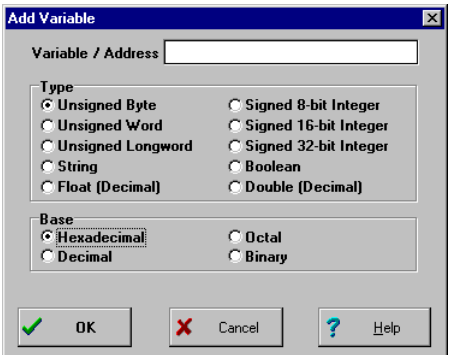

Figure 6-7. Add Variable Dialog
- **Add Variable:** Choose this option to open the *Add Variable* dialog (Figure 6-7) to add a variable or address to the current variable list. Select the variable type (size) and base.
You may enter values for commands in the simulator as either labels (which you have defined in the map file or with the SYMBOL command), or as numbers. You may specify the base in which variables are shown using the options in the *Add Variable* dialog (Figure 6-7). The default number format for the ICS05CW is hexadecimal.